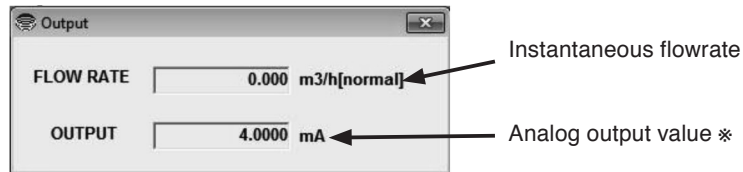

Fig.19
- ① Click on "View (V)" at top-level menu of the screen, select "Output (O)" and click on again.
- ② A message box for output as shown in Fig. 19 appears.